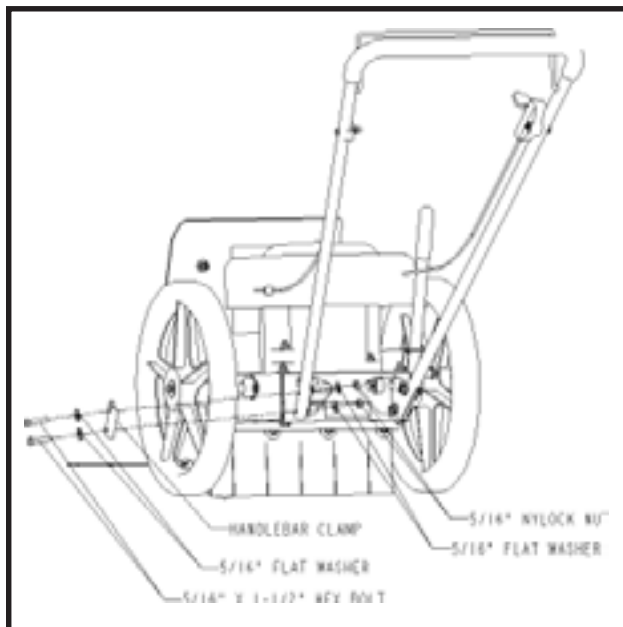

Figure 1
2. Stand handlebar upright. Secured the bottom of the handlebar by adding the handlebar clamp and inserting and tightening bolts to the bottom hole on the handle support channel. Refer to Figure 1.